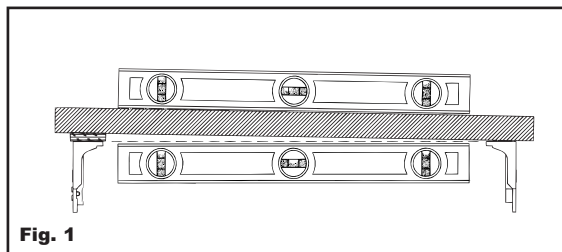

Fig. 1
- For shades to operate properly, brackets must be level. Check to see if the surface on which the shades will be mounted is level; if not, shim the brackets to make them as level as possible. **(See Fig. 1)** This step is crucial to the final product. (On non-level surfaces, the shade fabric will tend to telescope on the tube. If you are experiencing this, shim the tube with a little tape on the side that appears to be lower.)
1. For shades to operate properly, brackets must be level. Check to see if the surface on which the shades will be mounted is level; if not, shim the brackets to make them as level as possible. **(See Fig. 1)** This step is crucial to the final product. (On non-level surfaces, the shade fabric will tend to telescope on the tube. If you are experiencing this, shim the tube with a little tape on the side that appears to be lower.)
- For shades to operate properly, brackets must be level. Check to see if the surface to which the shades will be mounted is level; if not, shim the brackets to make them as level as possible. **(See Fig. 1)** This step is crucial to the final product. (On non-level surfaces, the shade fabric will tend to telescope on the tube. If you are experiencing this, shim the tube with a little tape on the side that appears to be lower.)